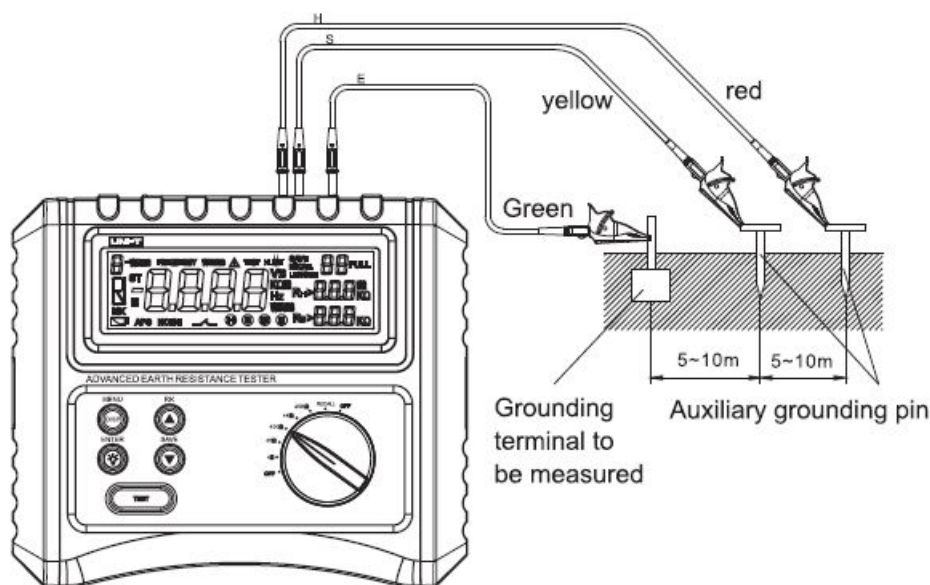

Figure 3
5. Use and wiring of auxiliary grounding pin Place and deeply drive the auxiliary grounding pin corresponding to ports S and H into the ground in a straight line, with a spacing distance of about 5-10m to the grounding body to be measured. Connect the port E, S, and H of the instrument to the grounding body to be measured, auxiliary grounding pins S and H respectively by using the testing wires (green, yellow, and red). (See Figure 3)